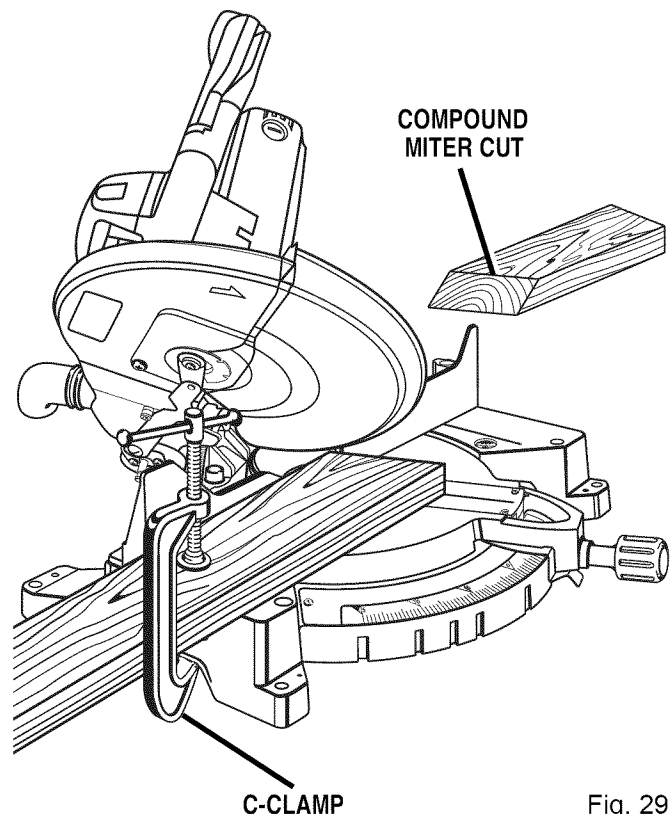

Fig. 29
- Grasp the stock firmly with one hand and secure it against the fence. Use the work clamp or a C-clamp to secure the workpiece when possible. *See Figure 29.*
- Slowly lower the blade into and through the workpiece. *See Figures 29 and 30.*